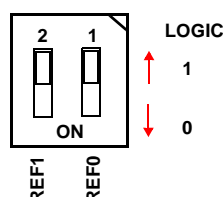

FIGURE 1. TYPICAL U2 DEFAULT SETTING 11 (1.5V)
- Set the “REF Selection” DIP switch (U2) to 11 corresponding to $DAC = REF = 1.5V$. Figure 1 details the typical default configuration for U2 when the board is shipped. In this default setting, the evaluation board is set for a reference voltage of 1.5V.